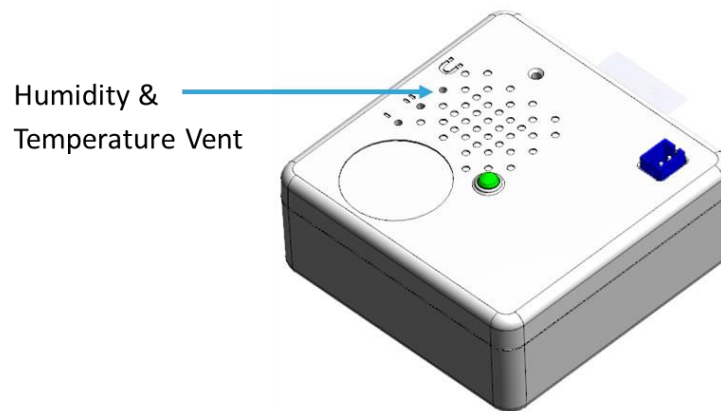

Figure 3-1: Humidity vents
The Comfort/Vivid contain a temperature and relative humidity (RH) transducer. Vents on the enclosure allow air to contact the transducer. Response time can be reduced by forcing air to move over the vent as in Figure 3-1.